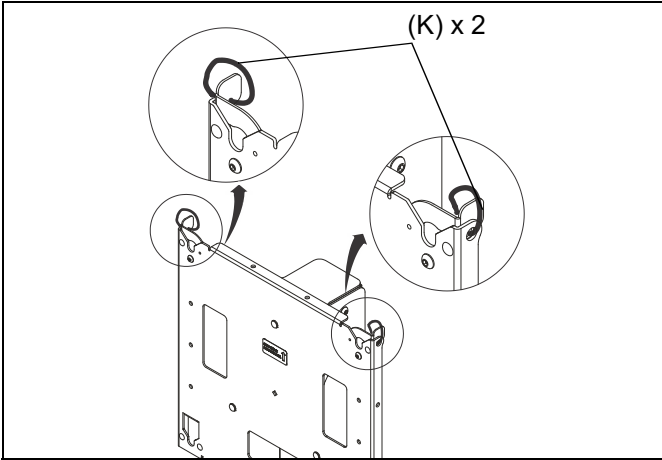

Figure 20
18. Make sure latching flags are in "closed" position prior to using cart! (See Figure 20)
IMPORTANT ! : Manufacturer recommends using cable ties (K) to secure the latching flags in closed position on both sides if padlock is not being used. (See Figure 20)